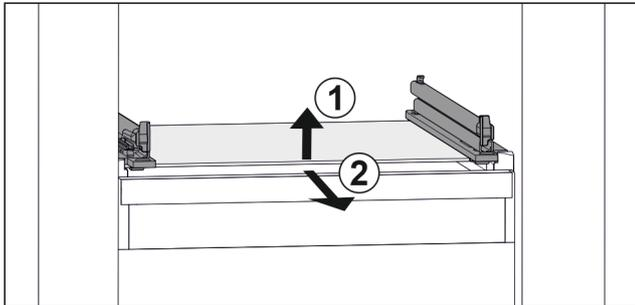

Fig. 51 Example illustration of glass shelf
- ▶ Lift glass shelf at the front. Fig. 51 (1)
- ▶ Take out glass shelf to the front. Fig. 51 (2)